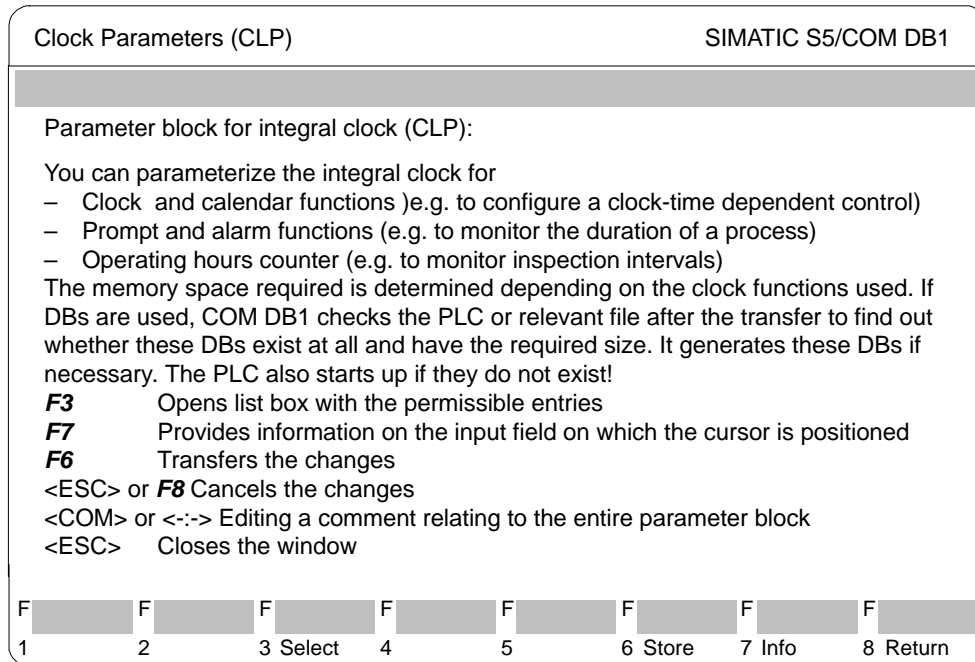

Figure 23-4 Help Display: Explanations of the Current COM DB1 “Clock Parameters” Dialog and Function Key Assignments
- ① Message line: Notes and error messages in the message line of the COM DB1 dialogs
- ② Help screen: Help texts with explanations of the current COM DB1 dialog and function key assignments
- ③ Info window: Help texts with information on the input fields
- Message line** ① COM DB1 informs you about the following in the message line of the COM DB1 dialogs (see Figure 23-4):
- Help Dialog** ② If you press the **HELP key** inside a COM DB1 dialog, a help window appears on the screen with a short explanation of the selected dialog and the current function key assignments.